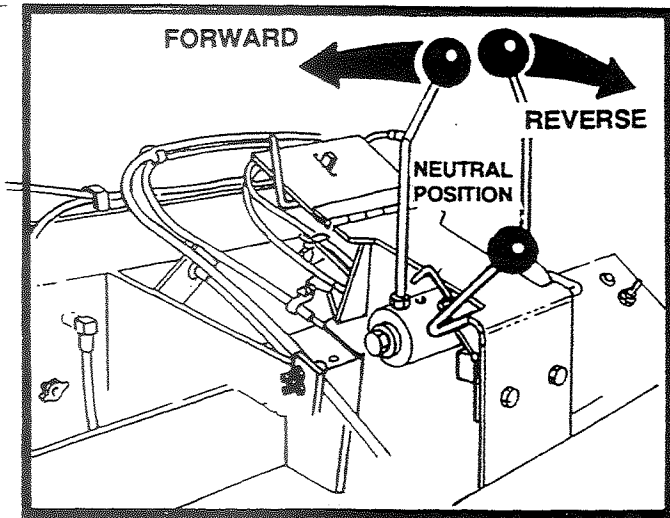

FIGURE 3
The forward/reverse plus turning will require exact movement. The steering levers along with the interconnected hydraulic components make possible the positive control necessary. The following procedures, plus illustrations in figures 3, 4 and 5, will provide a working knowledge of operating the paver through forward/rearward and turning requirements.
2. To drive the paver forward, push the steering levers together from the neutral position forward, likewise to drive to the rear, pull the steering levers toward the rear from the neutral position. Refer to figure 3.